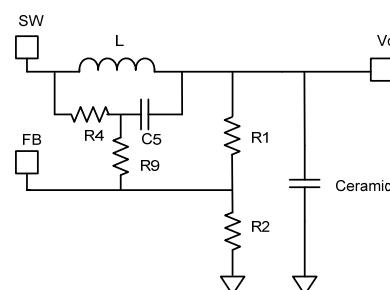

Figure 8: External Ramp Compensation
Figure 8 shows a simplified external ramp compensation for PWM mode.  $V_{\text{ramp}}$  on FB can be estimated with Equation (5):